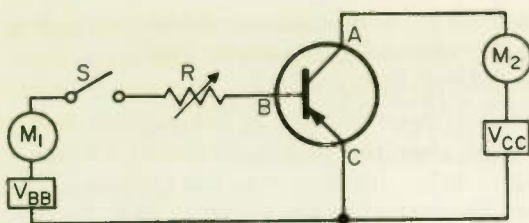

Fig. 3
4. Is the transistor in Fig. 3 of the NPN or PNP type? _____
5. In Fig. 3 lead A is the (a) _____, lead B is the (b) _____, and lead C is the (c) _____.
6. Remembering that the base-emitter junction is always forward-biased and the collector is reverse-biased, the proper polarity for the top terminal of the voltage source V_{BB} in Fig. 3 is (a) _____ and for the top terminal of V_{CC} is (b) _____.
7. To find the leakage current (I_{CEO}) of the transistor in Fig. 3, you would (a) (*open*) (*close*) switch S and then read microammeter (b) (M_1) (M_2).
8. Suppose in Fig. 3 that the leakage current (I_{CEO}) is $20 \mu\text{a}$ and that the current gain is 80. If the base current is $15 \mu\text{a}$, what is the collector current? _____
10. Assume that the leakage current is negligible in Fig. 3 and that a collector current of 4 ma is wanted for best operation. You should adjust R so that microammeter M_1 reads _____ μa . This value of I_B is called the base bias current.
12. If the collector current in Fig. 3 is 4 ma and the base current is $50 \mu\text{a}$, the emitter current is _____ μa .